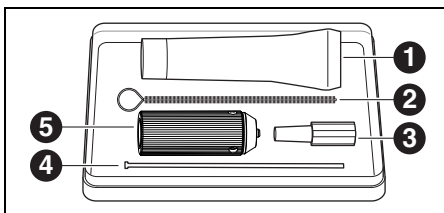

Fig. 19 Service set for spindle
- ▷ Apply a light coat of the collet grease ([1] in Fig. 19 on page 59) from the service set to the outer cone of the collet. This improves the sliding properties and increases the clamping force of the collet.